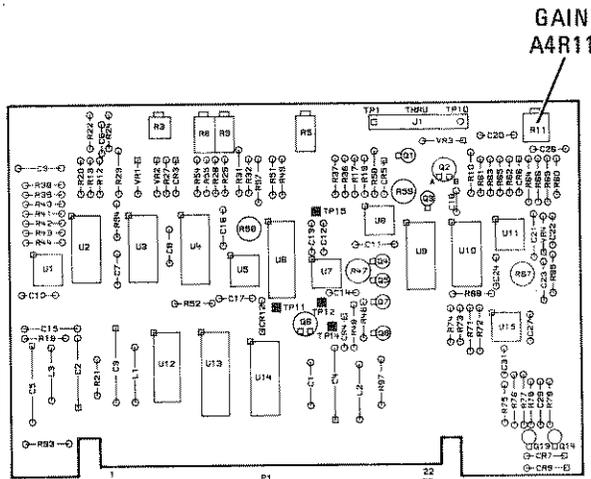

Figure 5-27. Location of ALC Gain Adjustment
8. Observe the trace dot as it sweeps across the CRT. Adjust A4R11, GAIN, (Figure 5-27) clockwise, increasing the gain of the ALC loop, until the trace dot begins to oscillate. Then reduce gain to eliminate oscillations and obtain a focused "dot" trace.